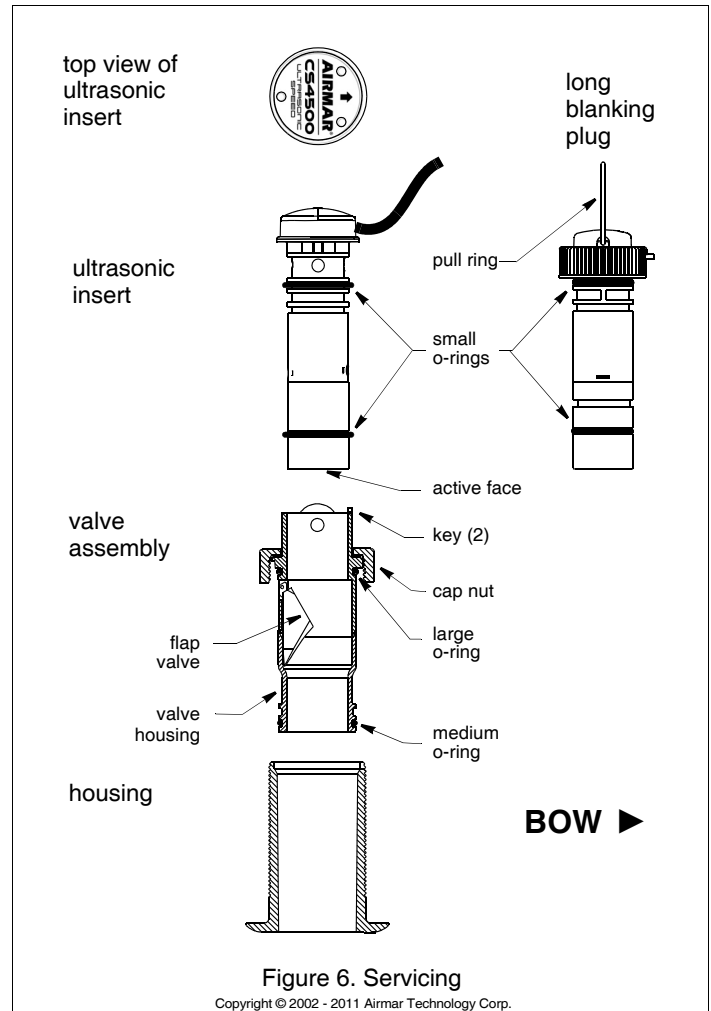

Figure 6. Servicing
8. The o-rings must be intact and well lubricated to make a watertight seal. Inspect the o-rings on the ultrasonic insert (replace if necessary) and lubricate them with the silicone lubricant supplied (Figure 6).
1. Place the *insert* nut on the top of the *long* blanking plug (Figure 6). Attach the pull ring to the plug, capturing the *insert* nut.
5. Slide the *long* blanking plug into the housing with the arrow on the top pointing forward toward the bow. Seat it into place with a pushing twisting motion until the key fits into the notch (Figure 6). Secure it with the retaining pin and safety rings.
Aquatic growth will seriously affect the ultrasonic insert's performance. Clean the active face with a dull putty knife being careful to avoid scratching the surface (Figure 6). If fouling is severe, lightly wet sand the surface with fine grade (#320) wet/dry paper.
O-rings must be free of abrasions and cuts to ensure a watertight seal. Install three small o-rings on the ultrasonic insert (Figure 6). Place the remaining three small o-rings on the *long* blanking plug.
6. Clean, repair, or replace the valve assembly, so the flap valve moves freely and seats against the valve housing (Figure 6).